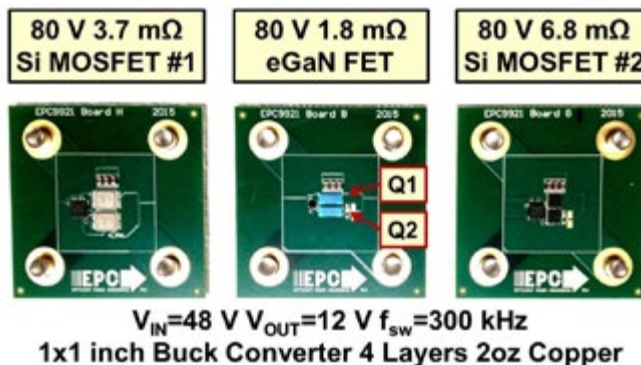

Figure 2: eGaN FET and Si MOSFET thermal evaluation boards
To compare the overall performance of eGaN FETs and state-of-the-art Si MOSFETs, three identical 48 V_{IN} buck converter evaluation boards were designed, shown in figure 2. All of the boards were 2x2 inches and had active copper areas of one (1) in² (645 mm²), outlined by the white border in the figure. The boards, designed on the same PCB panel to be consistent, had four layers of two-ounce (2.8 mils/71 μm) copper and used an optimized layout as discussed in [8].